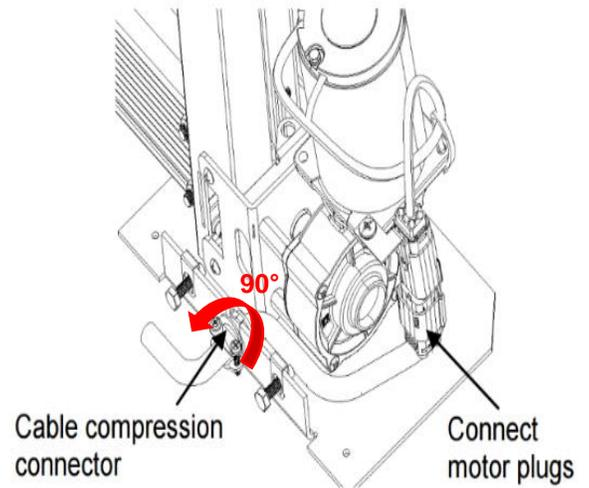

Figure 94
13) Locate the short end of the cable, which can be identified from the metal compression connector near the end of the cable. Make the connector go through the center hole on the back of the motor jack's base plate. Connect the cable to the motor harness and tighten the screws of the compression connector onto the base. **The screws of the compression connector should be oriented horizontally.** You might have to rotate the connector as shown on Figure 94. Let the remainder of the cable pass near the U-frame. The electrical hook-up will be explained further. When connecting the motor harness, you must hear a CLICK from the connector to confirm you have properly installed it.